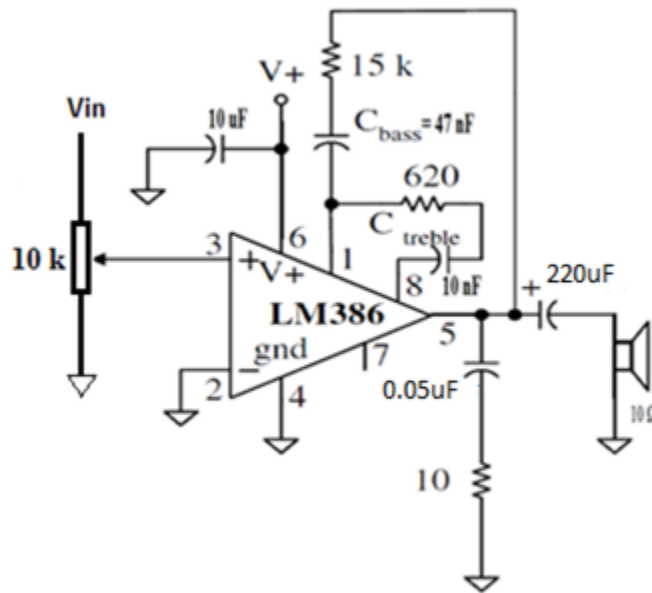
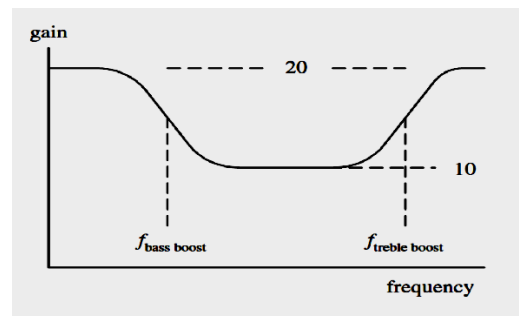

Figure 1. Audio amplifier circuit
Figure 2. Frequency characteristics of audio amplifier
1. In the lab, connect the circuit of Figure 1 without the speaker. Use 10Ω resistor in place of a speaker. The frequency characteristics are shown in Figure 2.